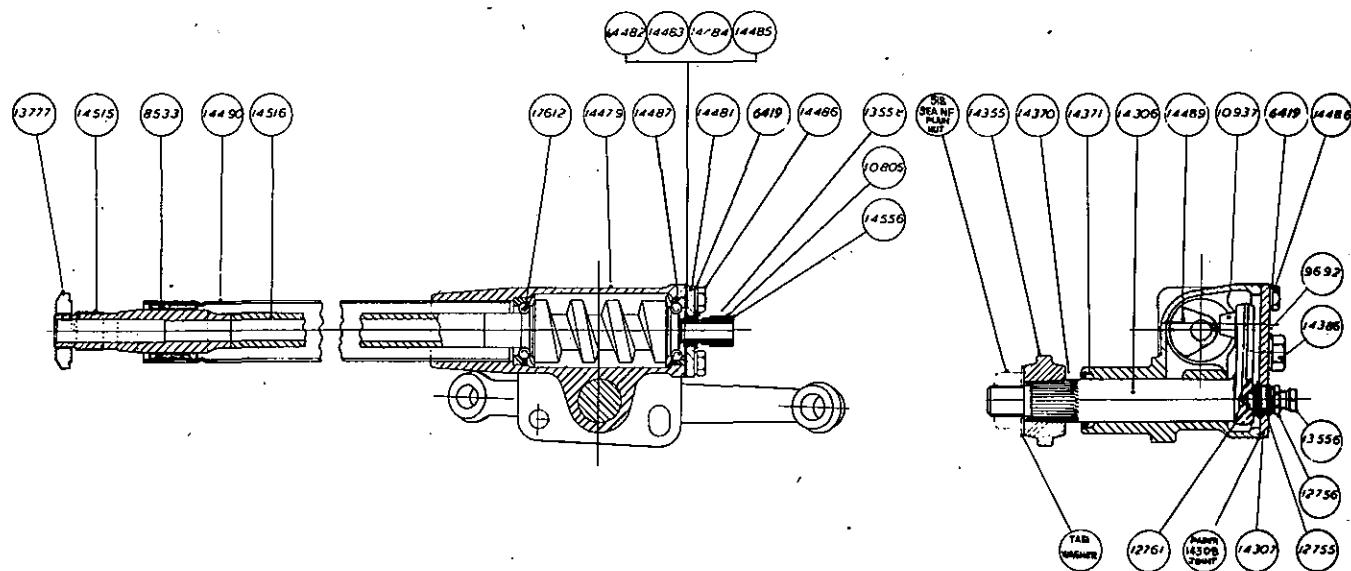

Fig. 5. Sectional view of Bishop's cam and lever. Model "T" steering gear
### Type and Description (Fig. 5).
The Steering Gear is the Bishop Cam and Lever Model "T" having a ratio of 11 to 1. The cam portion takes the form of a generated worm and runs in ball bearings. The rocker shaft runs in a plain bearing and a lever integral with the shaft carries a peg which is conical at one end to engage the cam, and as the conical part of the peg does not touch the bottom of the cam groove, adjustment for wear is effected by varying the depth of engagement. This is done by means of the set-screw 13556 (Fig. 5) in the top cover of the steering gear.
The gear is illustrated in Fig. 5, from which it will be observed that it is a self contained unit of extreme simplicity consisting essentially of a cam 14489 mounted on the bottom of steering tube 14516, which engages with the rocker shaft 14306 through a spiral groove cut in the periphery of the cam and a fixed peg mounted in the top of the integral lever of the rocker shaft.
If the steering is stiff in the centre position only, the adjusting screw 13556 (see Fig. 5) is probably tightened up too much. Screw up "finger tight" only, but lock up the lock nut really tight. This adjustment *must* be made with the gear in the centre position only.
ahead position. This is due to play of the taper pin in the cam groove, and is eliminated by re-adjusting the screw (13556 Fig. 5) until a slight binding can be felt when turning the steering wheel to and fro with the gear in the straight ahead position.
Lost motion can be easily detected by lightly shaking the drop arm (14355, Fig. 5) in a forward and rearward direction and moving the steering wheel to and fro near the straight ahead position until the least amount of play is found (this fixing the deepest point of engagement between the rocker shaft lever and cam). Keep the gear in this position and then adjust the setting of the screw (13556, Fig. 5). Be careful not to adjust this screw too far in so that the feel in the straight ahead position is too heavy; just a slight touch is all that is required, otherwise the top cover plate 14307 will be damaged and oil lost quite apart from the fact that the steering will be rendered stiff in the straight ahead position.
1. Disconnect the rods from the drop arm (14355, Fig. 5). Set the steering partly towards right- or left-hand lock. (Full lock position should not be used). Grip the lever firmly and try to move it forwards and backwards (holding the wheel from turning) and see if the steering wheel shows any lift. If such play exists, this is due to end play of the cam in the ball bearings. The remedy for this lift is to remove one or more shims adopting a similar procedure to that described further on for the addition of shims when dealing with a tight bearing. A very slight pre-loading of balls is permissible.
Remove top cover plate and rocker shaft. If by turning the steering the ball bearing can be felt grinding, the cam bearings (17612, Fig. 5) are too tight.